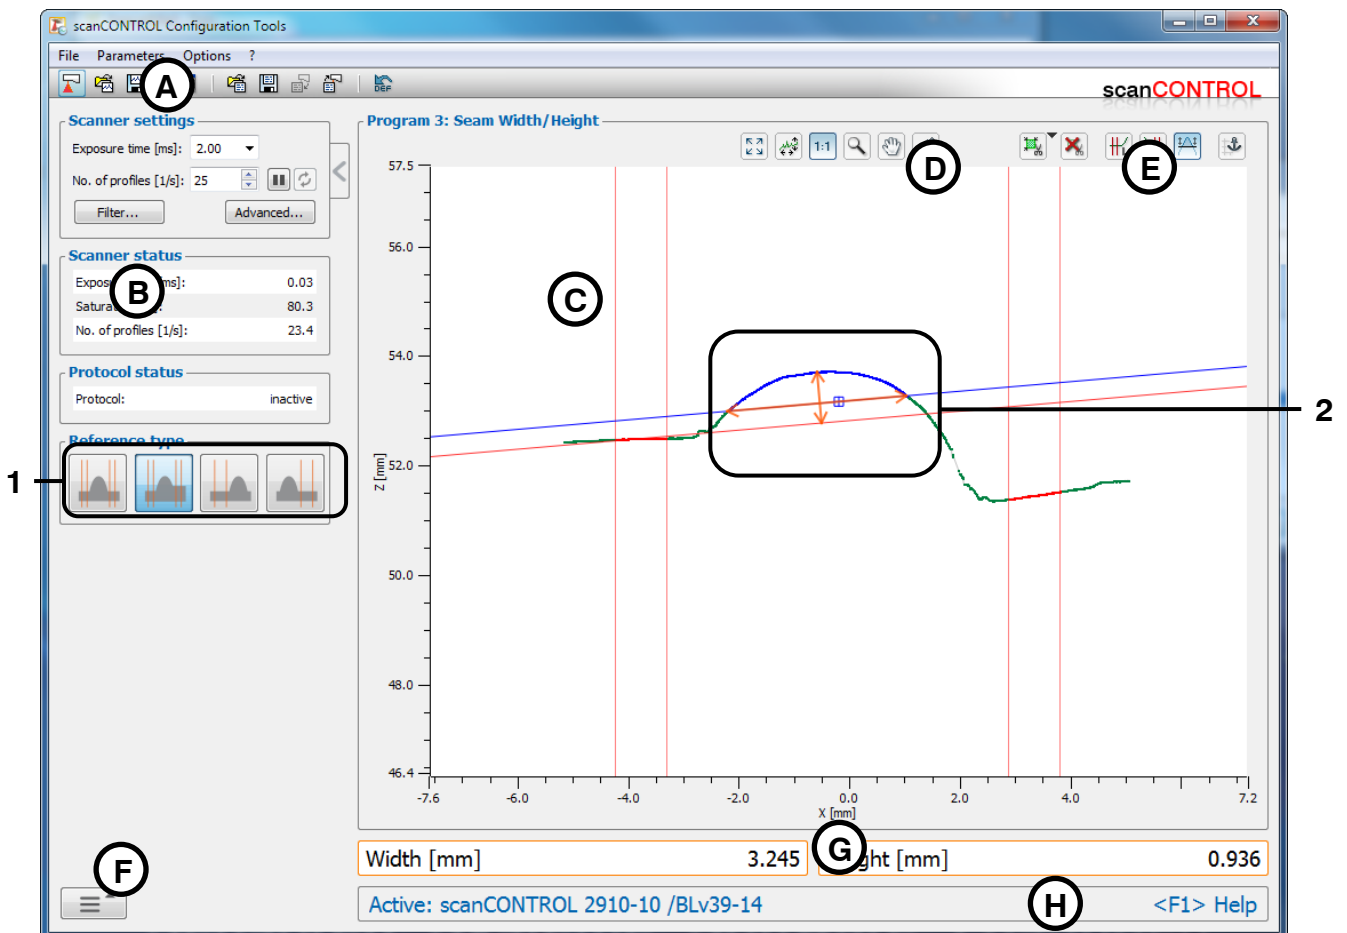

Fig. 4.28: "Seam Width/Height" measuring program
- Define the type of the heightening (see Fig. 4.28 and Chapter 3.13.1):